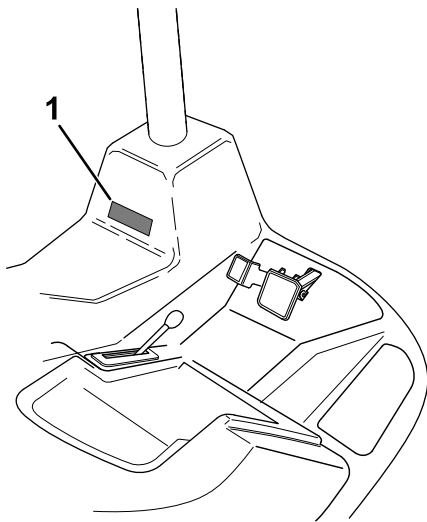

Figure 6
10. Install the slope-sensor decal adjacent to the machine-stability decal on the operator's platform (Figure 6).